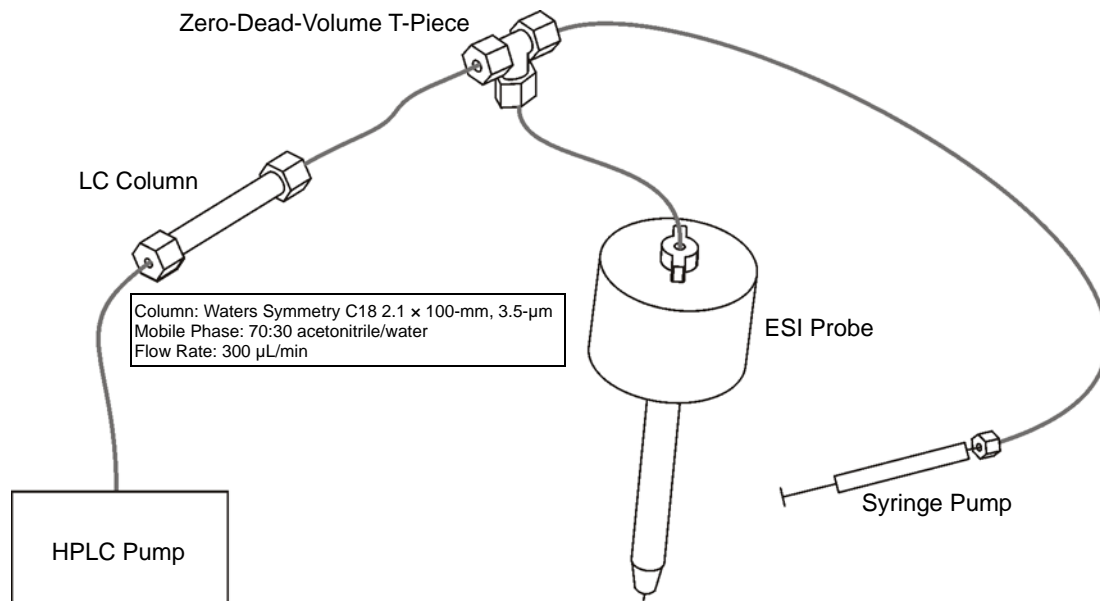

Figure 2-3 Syringe and Column Connections to the ESI Probe
2. Complete the connections between the HPLC pump, syringe pump, and ESI probe as shown in Figure 2-3.